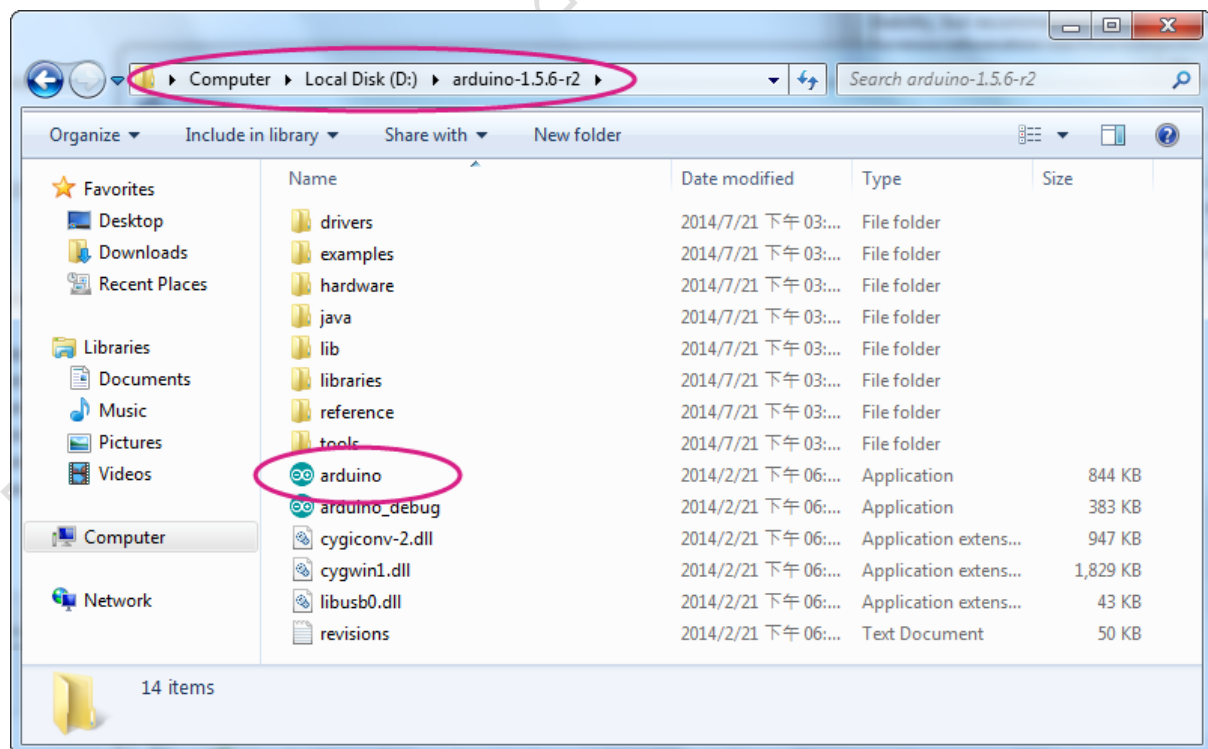

Figure 5 The Arduino installation folder containing `Arduino.exe`
- 3 After installation, note the folder in which you installed Arduino IDE, which is the folder containing `arduino.exe` (as shown in Figure 5). You'll install the LinkIt SDK into this folder.